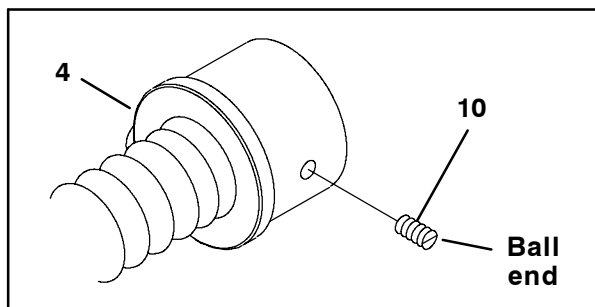

FIG. 1
4. Install the plunger (10) into the hose assembly (4). The ball end of the plunger must be oriented toward the outside of the cuff. Refer to Fig. 1.